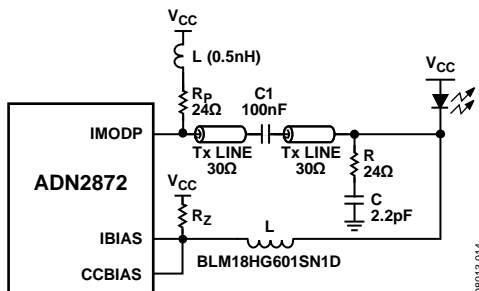

Figure 32. Recommended Interface for ADN2872 AC Coupling
This on-chip resistor helps to damp out the low frequency oscillation observed from some inexpensive lasers. If the on-chip resistance does not provide enough damping, one external  $R_Z$  may be necessary (see Figure 32 and Figure 33).
The schematic in Figure 32 describes the recommended circuit for interfacing the ADN2872 to most TO-Can or coax lasers. These lasers typically have impedances of 5 Ω to 7 Ω and have axial leads. The circuit shown works over the full range of data rates from 155 Mbps to 3.3 Gbps including multirate operation (with no change to PAVCAP and ERCAP values); see Figure 18, Figure 19, and Figure 20 in the Typical Performance Characteristics section for multirate performance examples. Coax lasers have special characteristics that make them difficult to interface to. They tend to have higher inductance, and their impedance is not well controlled. The circuit in Figure 32 operates by deliberately mismating the transmission line on the laser side, while providing a very high quality matching network on the driver side. The impedance of the driver side matching network is very flat vs. frequency and enables multirate operation. A series damping resistor should not be used.
The 30 Ω transmission line used is a compromise between drive current required and total power consumed. Other transmission line values can be used, with some modification of the component values. The R and C snubber values in Figure 32, 24 Ω and 2.2 pF, respectively, represent a starting point and must be tuned for the particular model of laser being used. Rp, the pull-up resistor, is in series with a very small (0.5 nH) inductor. In some cases, an inductor is not required or can be accommodated with deliberate parasitic inductance, such as a thin trace or a via placed on the PC board.
Recommended component layouts and gerber files are available by contacting sales at Analog Devices. Note that the circuit in Figure 32 can supply up to 56 mA of modulation current to the laser, sufficient for most lasers available today. Higher currents can be accommodated by changing transmission lines and backmatch values. This interface circuit is not recommended for butterfly-style lasers or other lasers with 25 Ω characteristic impedance. Instead, a 25 Ω transmission line and inductive (instead of resistive) pull-up is recommended. Contact sales for recommendations on transmission lines and backmatch values.
In Figure 32 and Figure 33, Resistor Rz is required to achieve optimum eye quality. The recommended value is approximately 200 Ω ~ 500 Ω.
**Table 6. ADN2872 Response to Various Single-Point Faults in AC-Coupled Configuration, as Shown in Figure 32**